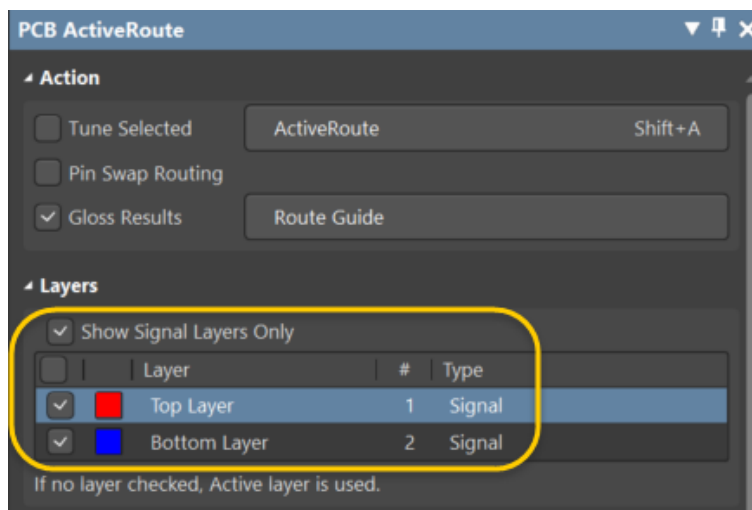

Figure 15. PCB ActiveRoute routing layer setup
42. Enable both checkboxes in the *PCB ActiveRoute* panel *Layers* section to allow *ActiveRoute* to utilize both the Top and Bottom layers when the command is activated, as shown in Figure 15 below. However, in our case since we only have SMD Top-Layer pads on UI1 and *ActiveRoute* tool does not drop vias, routes will only be placed on the Top Layer.